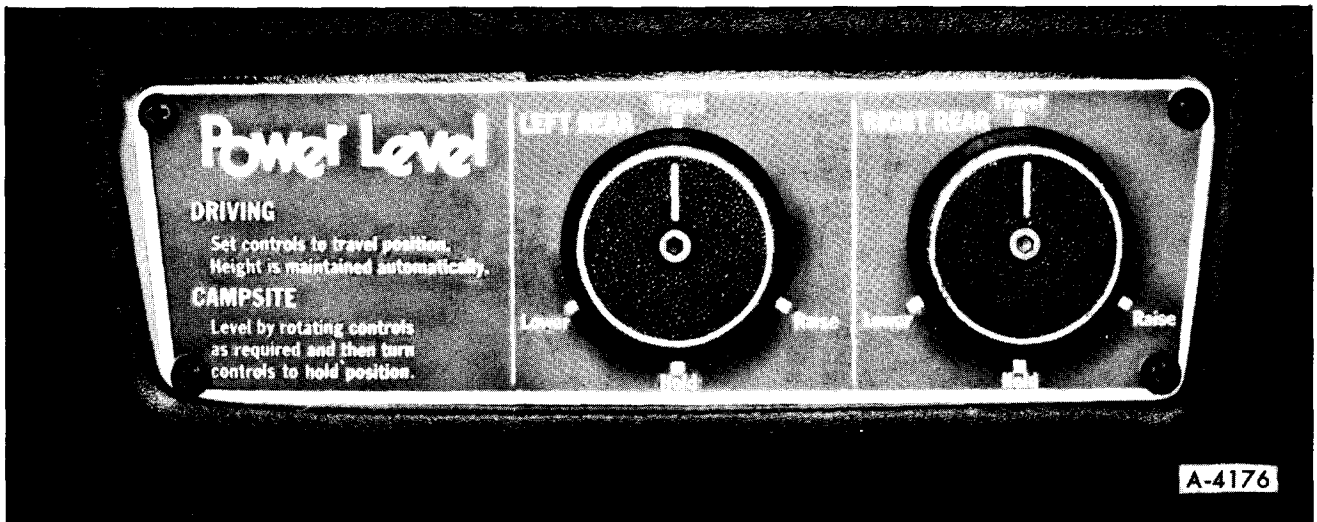

Figure 29—Power Level Control Panel
3. Remove control knobs by removing Allen head screw in center of knobs (See figure 29).